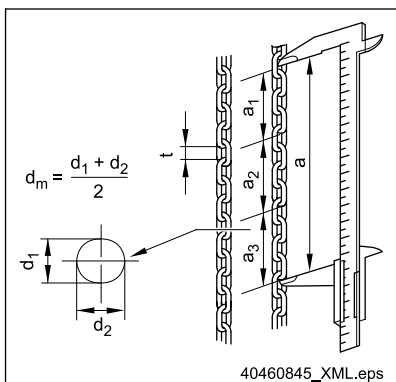

Fig. 45
- on 11 chain links \Rightarrow Fig. 45, Page 75.